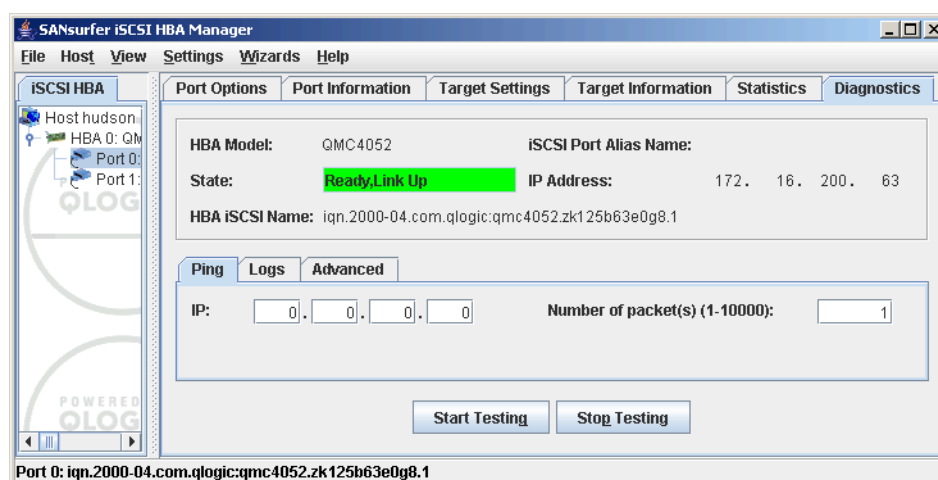

Figure 21-43 SANsurfer - Diagnostic - Ping
1. Connect with the SANsurfer GUI to the host, select the port from the HBA that you want to test, and click the **Diagnostic** tab. You will see the ping test, as shown in Figure 21-43.